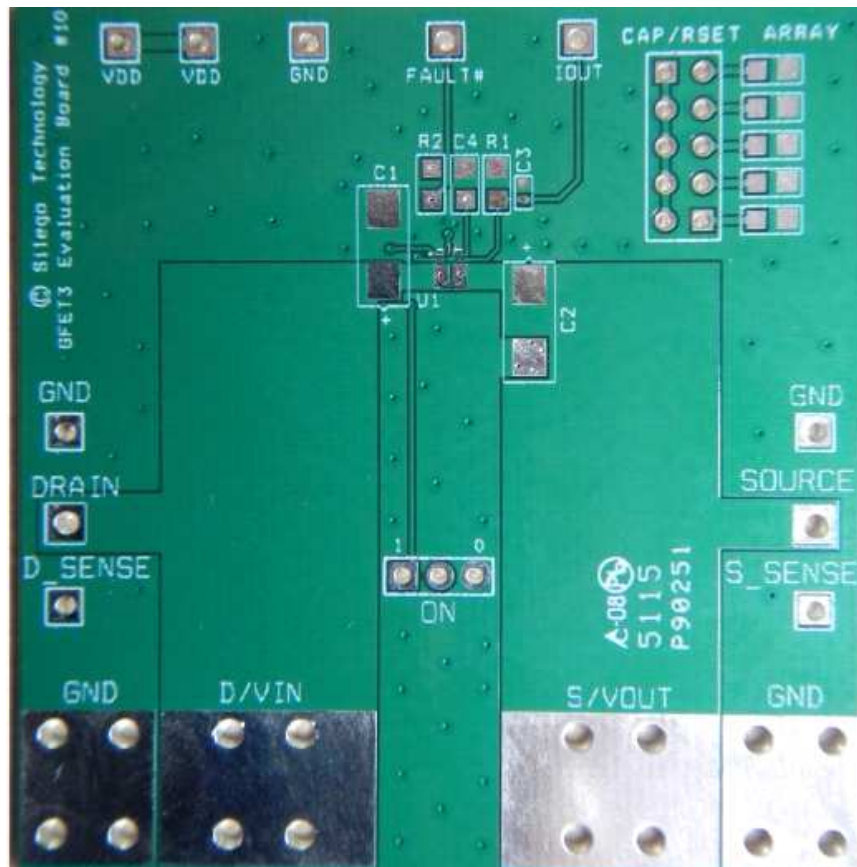

Figure 1. SLG59M1714V Evaluation Board
2. Since the VIN and VOUT pins dissipate most of the heat generated during high-load current operation, it is highly recommended to make power traces as short, direct, and wide as possible. A good practice is to make power traces with an absolute minimum widths of 15 mils (0.381 mm) per Ampere. A representative layout, shown in Figure 1, illustrates proper techniques for heat to transfer as efficiently as possible out of the device;
A GreenFET Evaluation Board for SLG59M1714V is designed according to the statements above and is illustrated on Figure 1. Please note that evaluation board has D_Sense and S_Sense pads. They cannot carry high currents and dedicated only for RDS_{ON} evaluation.